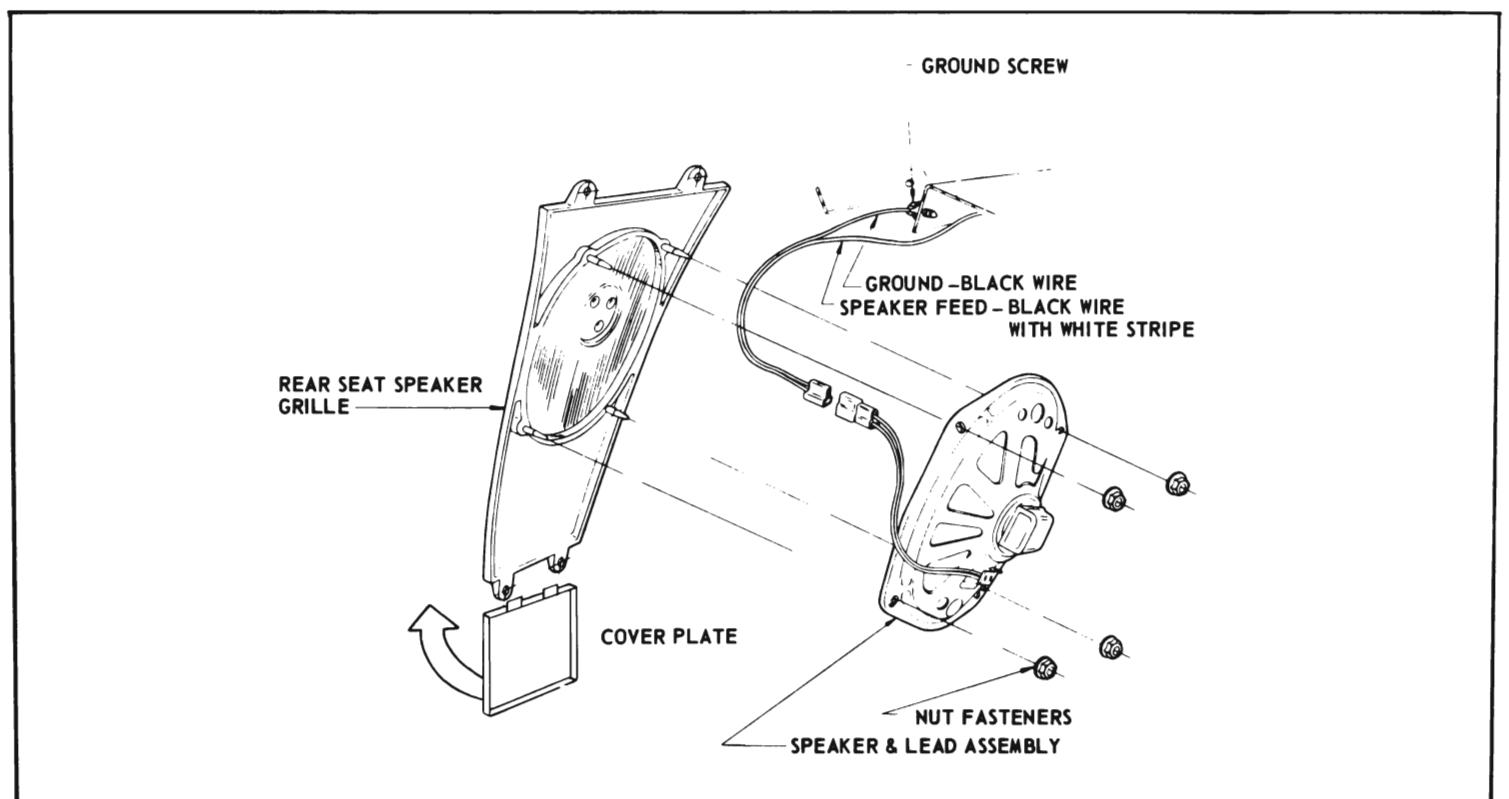

Figure 11-25—Rear Speaker Installation - 49000 Series
1. Remove cover plate (see Figure 11-25) located directly under the rear speaker grille by grasping lower edges and firmly pulling rearward. Cover plate is wedged between rear seat cushions.